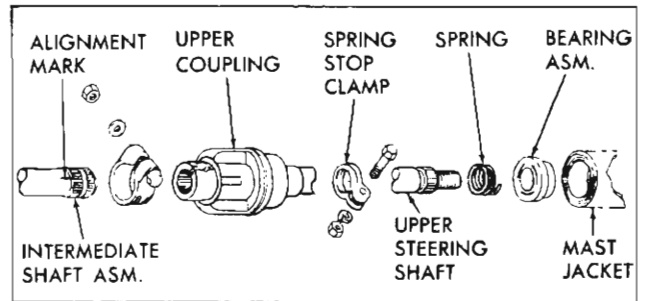

Fig. 5—Installation of Upper Steering Coupling
Installation (Fig. 5)
5. Attach intermediate shaft, if removed, to upper coupling, aligning the marks as shown in Figure 5.
1. With the front wheels straight ahead, remove the upper coupling clamp bolt (fig. 5), then push the upper coupling toward the dash as required to free the upper end of the intermediate shaft.
Further upward movement may be obtained if necessary by loosening steering shaft spring stop clamp (fig. 5).